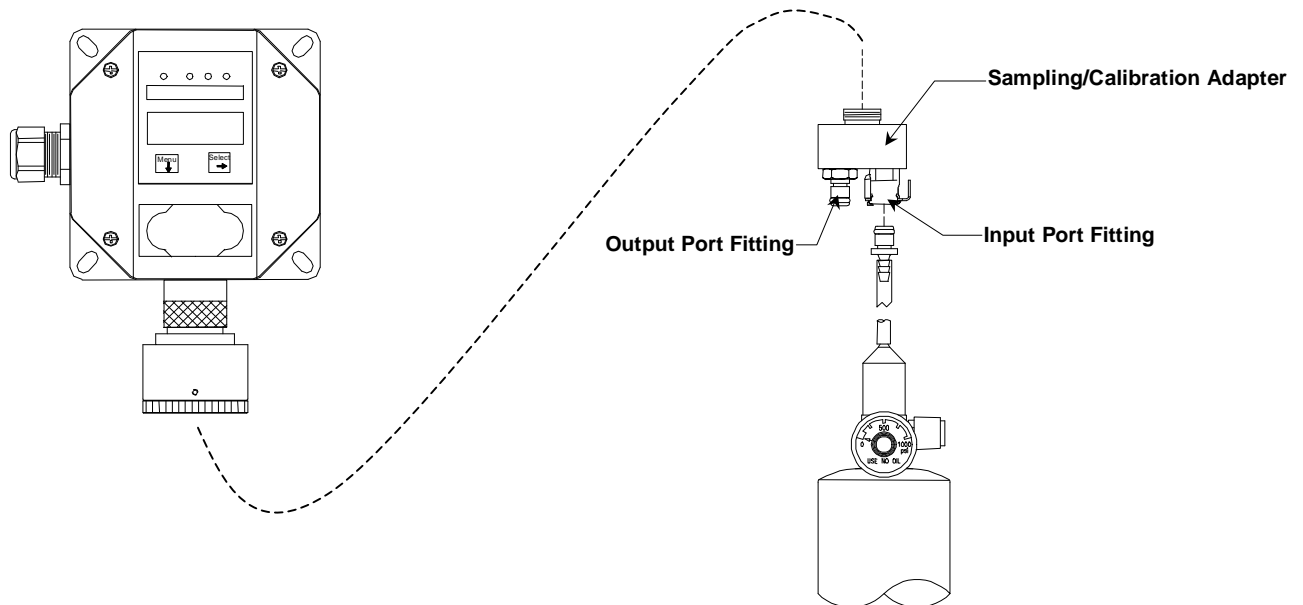

Figure 7: Calibration Adapter
The ZERO function must be performed by exposing the **SE-5175** instrument to clean fresh air. If the air at the sensor is in question, use a cylinder of 20.9% oxygen to provide a clean air reference. See **Figure 7**
3. Attach the associated calibration gas cylinder to the calibration adapter. See **Figure 7** on calibration adapter.
Apply Cal Gas until signal value becomes stable (about 1 to 4 minutes) See **Figure 7**